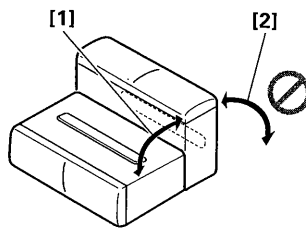

Fig. 11
- Install this unit at the angle shown in Fig. 11, 12. In addition, choose a place where the CD magazine can be loaded and unloaded easily.
(Fig. 11)